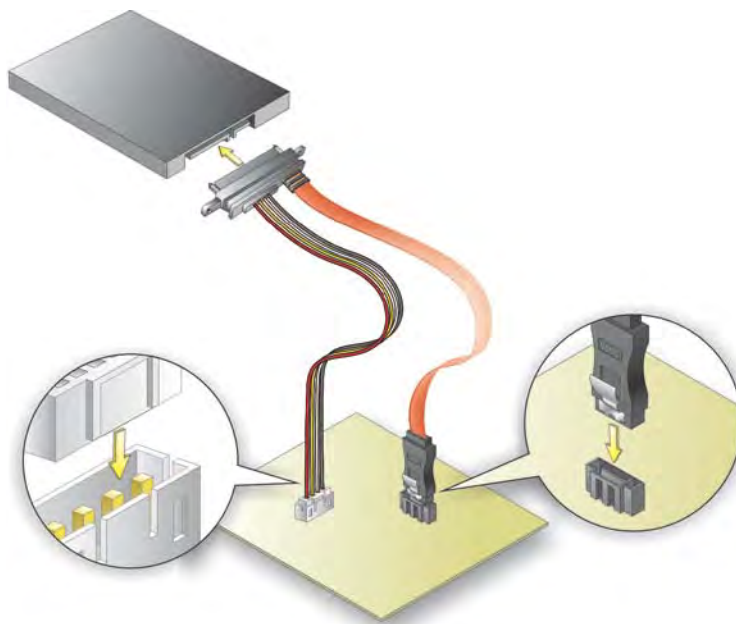

Figure 4-2: SATA Drive Cable Connection
Step 2: **Insert the cable connector.** Insert the cable connector into the on-board SATA drive connector and the SATA power connector. See **Figure 4-2**.
Step 3: **Connect the cable to the SATA disk.** Connect the connector on the other end of the cable to the connector at the back of the SATA drive. See Figure 4-2.